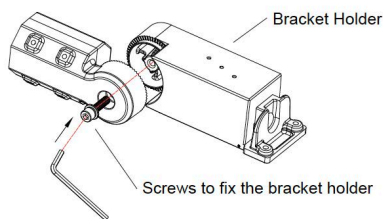

Fig.9
**For Type F Description 1-3, see Fig.9**